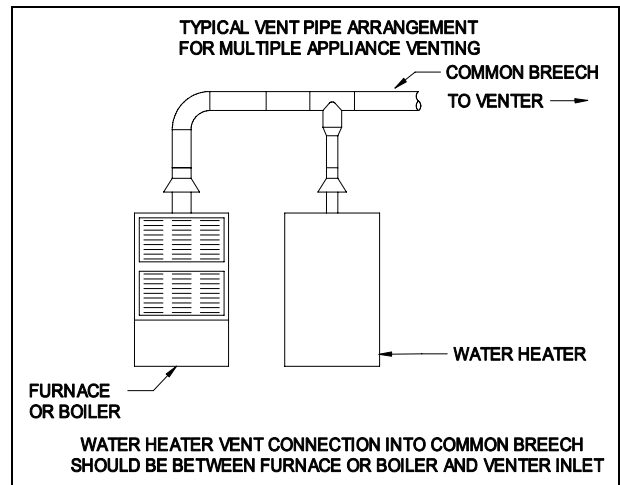

Figure 10
- b. A CK-20FV or CK-20FG control kit **MUST** be added to the system to properly control the venter during operation of the water heater. Refer to Figure 10 and Diagram F for vent pipe arrangement and wiring information.